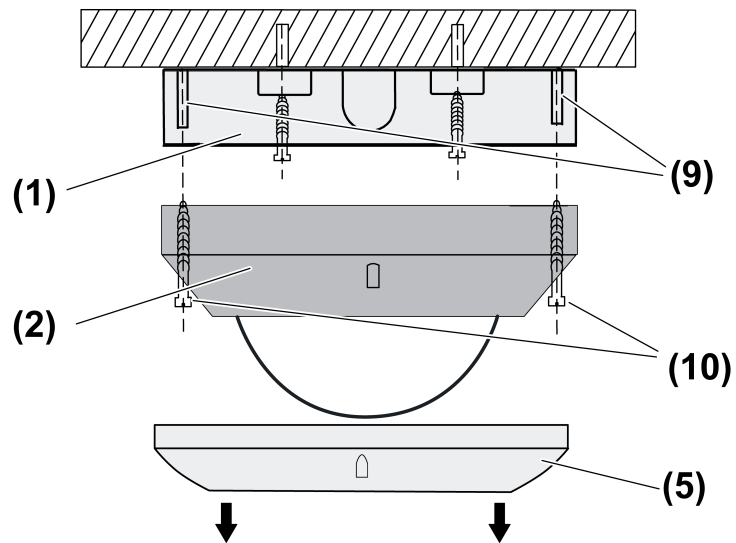
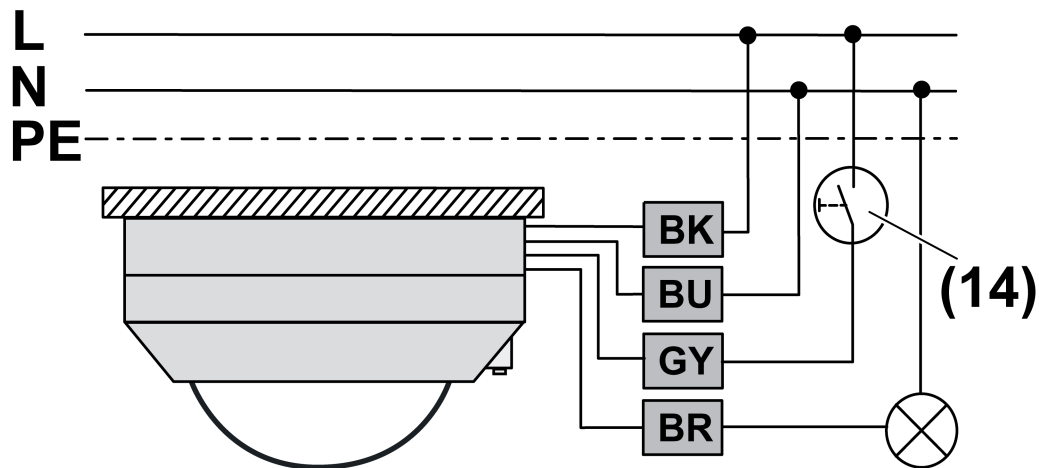
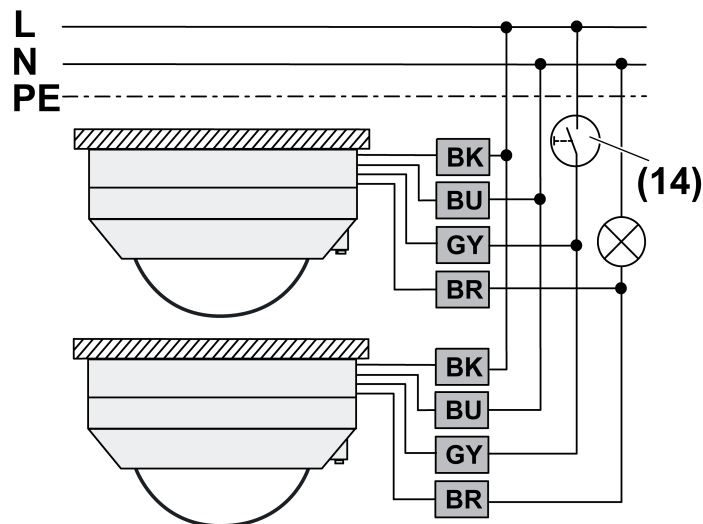

Figure 7: Fitting
Figure 9: Connection diagram, single device
Figure 10: Connection diagram, parallel circuit for expanding the detection area
- (1) Connection box
- (2) Sensor top
- (5) Decor ring
- (9) Fastening pins
- (10) Screws
- Pull off the decor ring (5) (Figure 7).
- Loosen the screws (10) (Figure 7).
- Connect the sensor top according to the connection diagram (Figure 9) or switch the sensor tops according to the circuit diagram (Figure 10).
- Optionally, connect the installation button (14) (Figure 9) or (Figure 10). This is only necessary if manual operation is also desired.
- i** In the case of single devices, a 2-wire extension can be used as an alternative to the installation button (14).
- Screw the sensor top (2) to connection box (1) with screws (10) and mounting pins (9) (Figure 7).